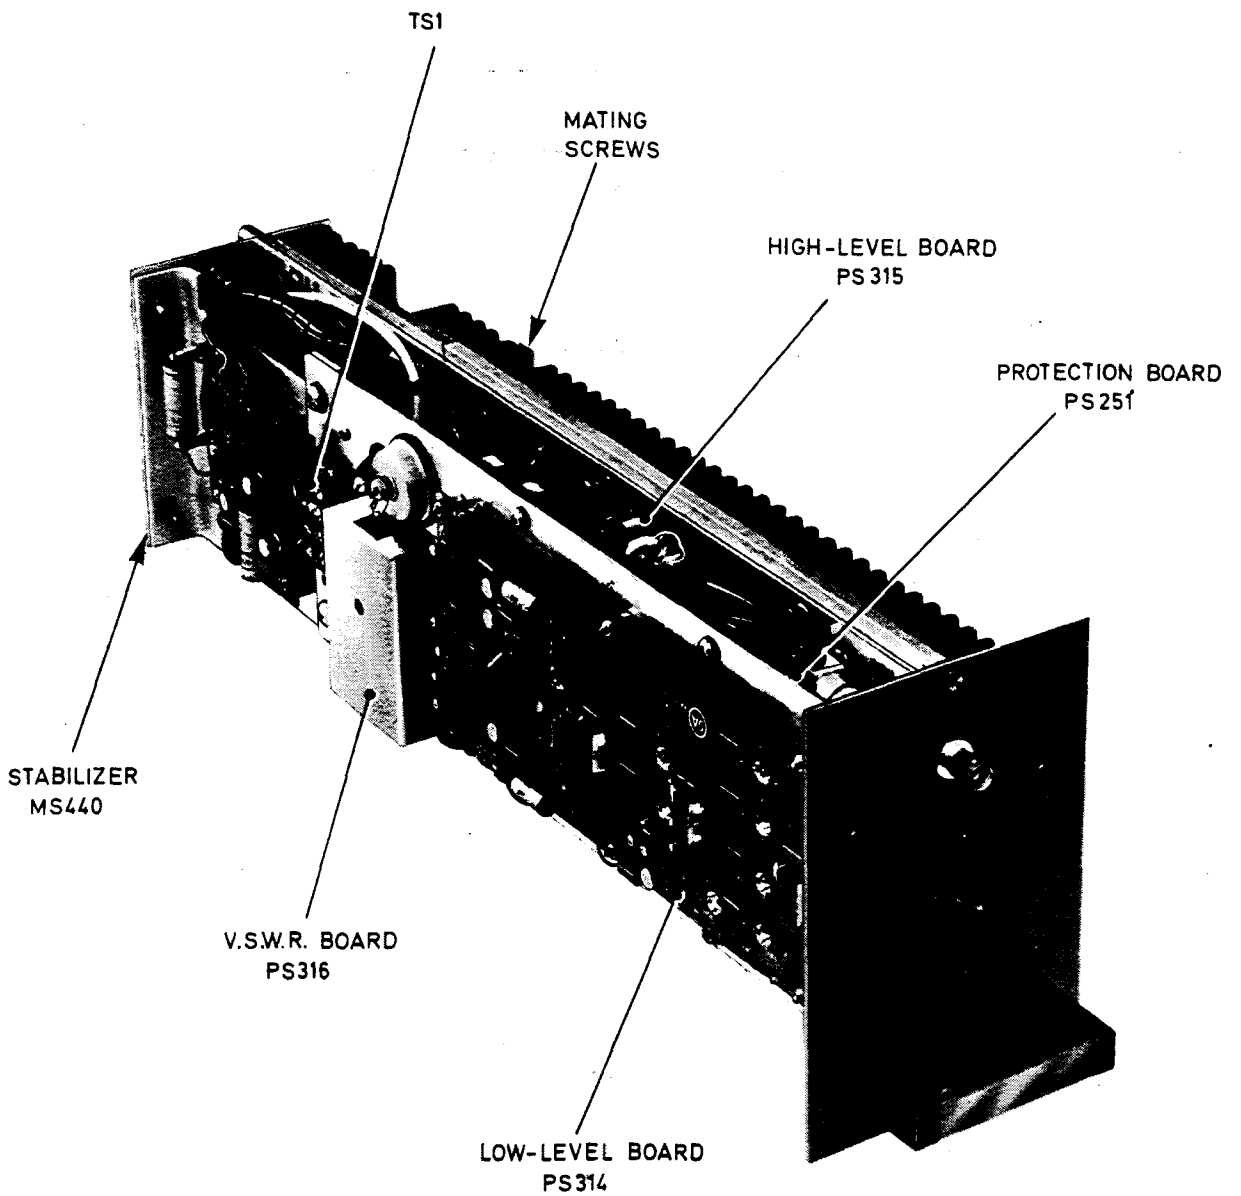

Fig.1 R.F. power module MM.420 : general view
2. The MM.420 physically separates into an r.f. amplifier module MM.320 and a power stabilizer module MS.440. Fig. 1 shows the construction of the complete MM.420 and Table 1 lists the sub-assemblies.